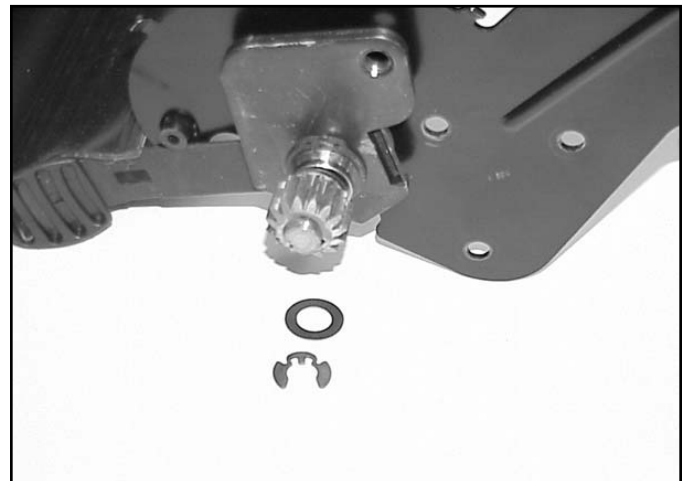

Fig 143
3. Remove the retaining ring and thrust washer (Fig. 143).